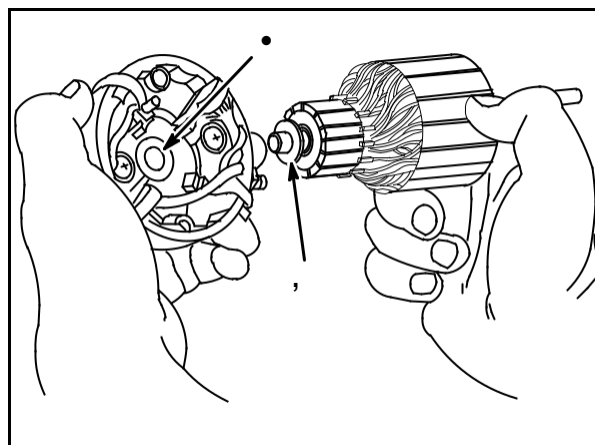

Fig. 26
When all parts have been inspected, lightly lubricate bearings(1) in both end caps with #20 oil, **Fig. 26.**